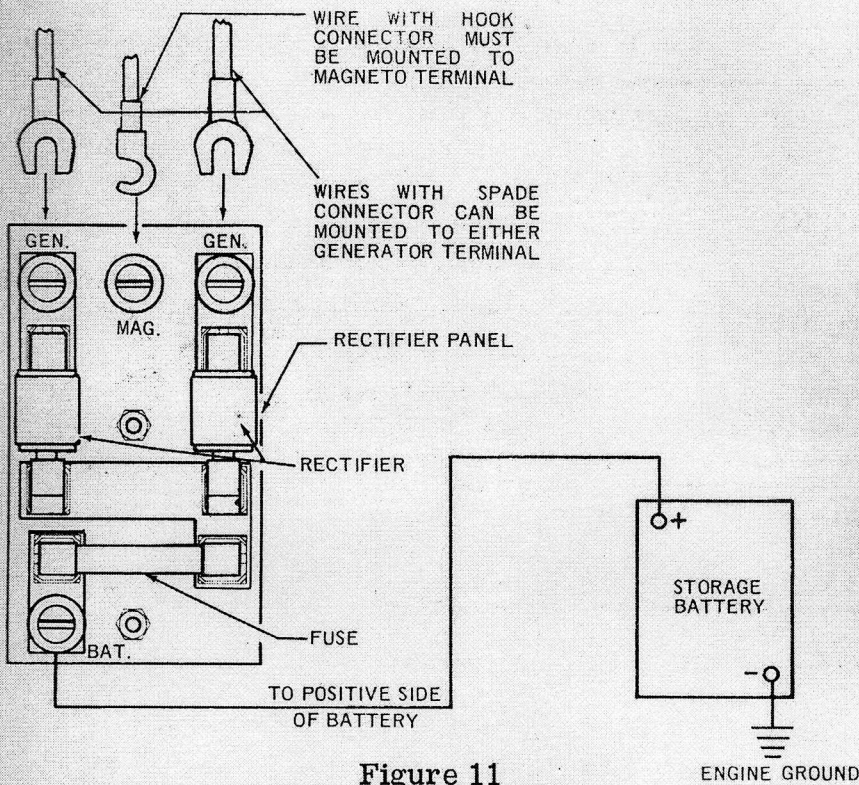

Figure 11
2. Connect battery positive lead to terminal on rectifier panel and ground negative lead to engine as shown in Figure 11.
3. **WARNING!** Do not operate engine with rectifiers in circuit when one or both battery leads are disconnected----- Remove both rectifiers or alternator leads if for any reason engine must be operated without battery. **NOTE:--** Position of rectifiers in Figure 11, grooved end of rectifier must fit in retaining clip toward battery terminal --- also look at end of rectifier before removing to observe correct position.
6. If lead wires are incorrectly attached to battery, the fuse on the rectifier will burn out. Correct by attaching lead wires properly, and install new 6 amp fuse. See Figure 11.